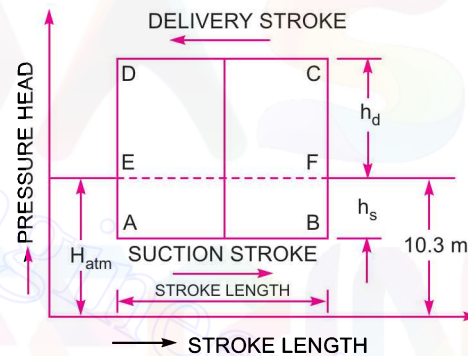

Fig. 20.4 Ideal indicator diagram.
**20.8.1 Ideal Indicator Diagram.** The graph between pressure head in the cylinder and stroke length of the piston for one complete revolution of the crank under ideal conditions is known as ideal indicator diagram. Fig. 20.4 shows the ideal indicator diagram, in which line  $EF$  represents the atmospheric pressure head equal to 10.3 m of water.
But from Fig. 20.4, area of indicator diagram